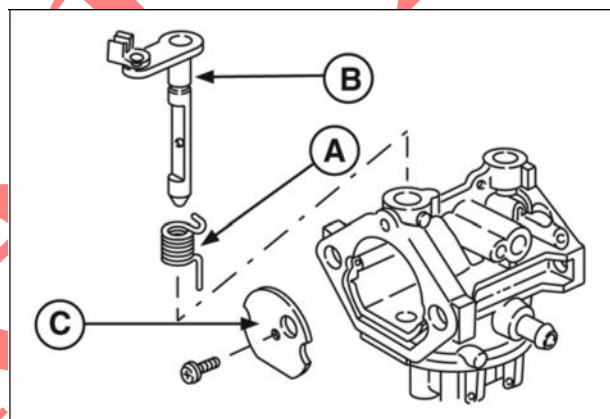

Figure 16
1. Assemble spring (A, Figure 16) to choke shaft (B) and insert in body.
3. Install choke plate with hole facing fuel inlet side of body (C).